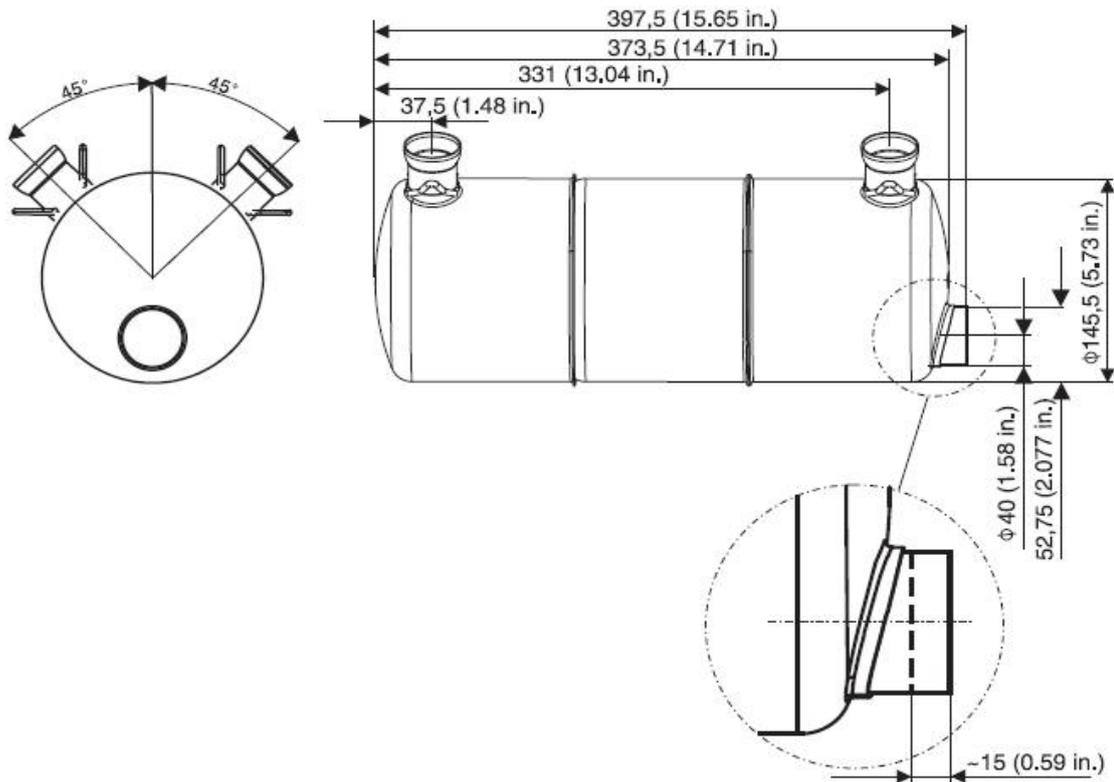

Fig.16
**Muffler assy.** (see Fig 16), Material/thickness: X6 CrNiTi 189(DIN 1.4541)(stainless steel); a=1 mm (0.04 in)。